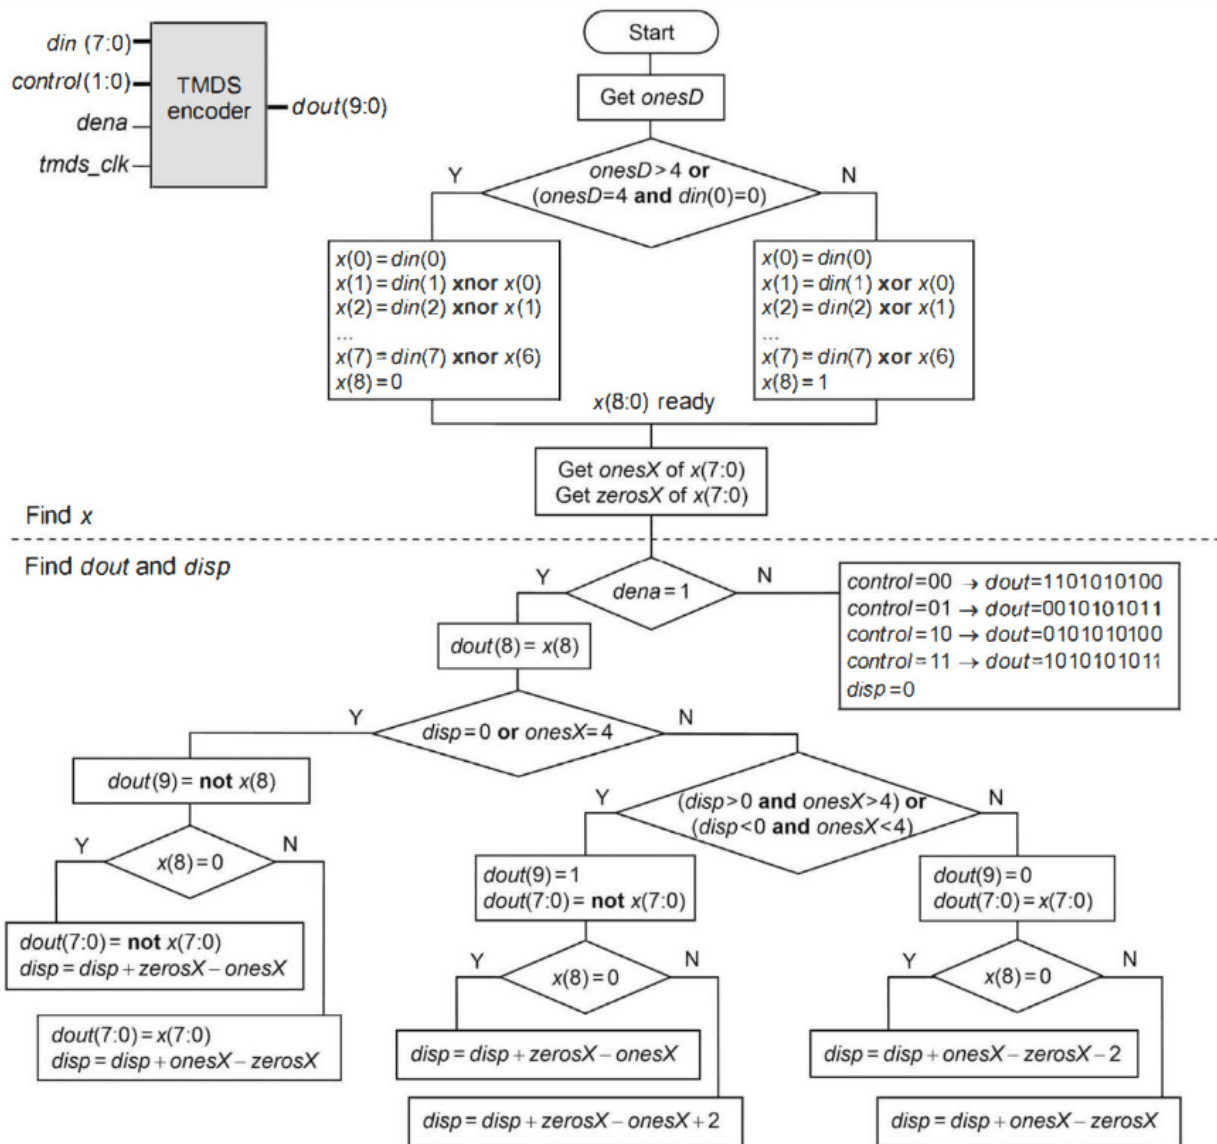

Figure 8: TMDs Algorithm
The general architecture of TMDS links is shown in fig. 8. The transmitter consists of an 8B/10B encoder, a serializer, and current-mode logic (CML) input and output pins. The 8B/10B encoder converts an 8-bit word into a 10-bit word with fewer internal transitions, thereby reducing high-frequency emissions. It also provides near-perfect DC balance (number of ones close to the number of zeros) on the communication wires, improving noise margin. Be aware, however, that this 8B/10B code is not the same as the original 8B/10B code introduced by IBM in the 1980s.
4. Describe a component implementing the algorithm shown in fig. 8. Does your circuit behave correctly against the examples of fig. 9? Your circuit can use the following entity description: